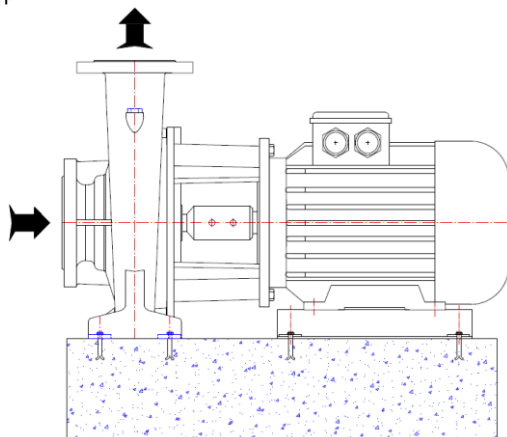

Figure 3: A typical Concrete Foundation
- Install the pump on the concrete base as illustrated in Figure 3.